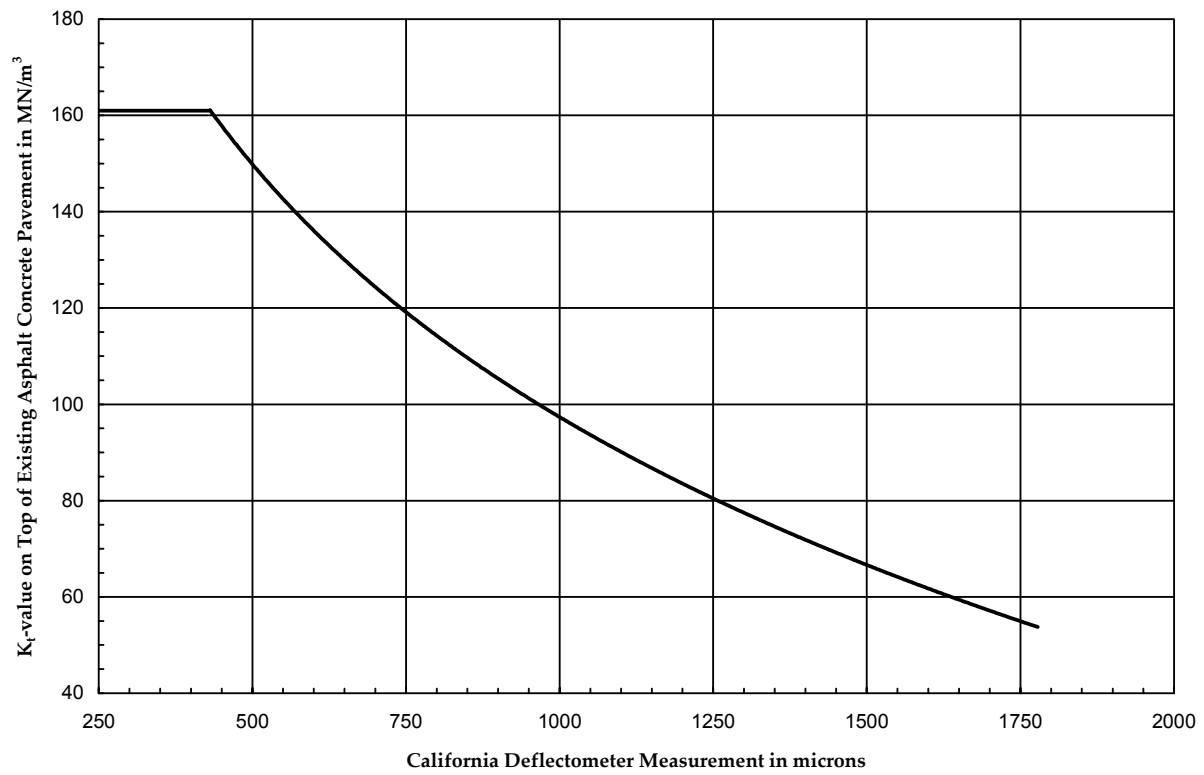

Figure 1. Modulus of Reaction versus Deflection for Asphalt Concrete Pavement
3. Either (a) scale the predicted static k_t -value from Figure 1, or (b) take the value from the following interpolation equation: